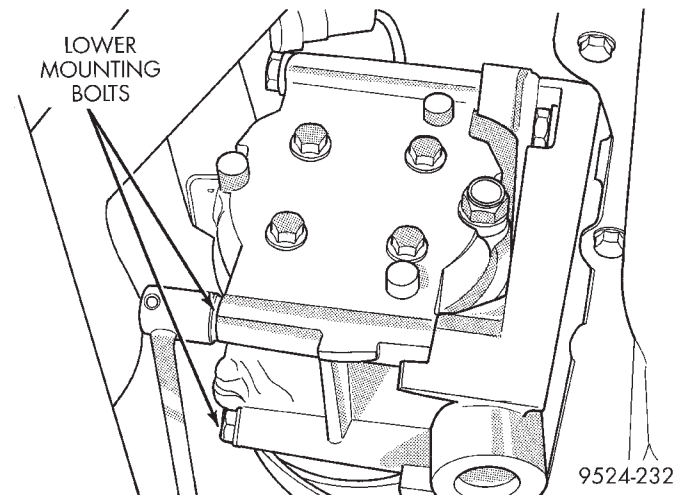
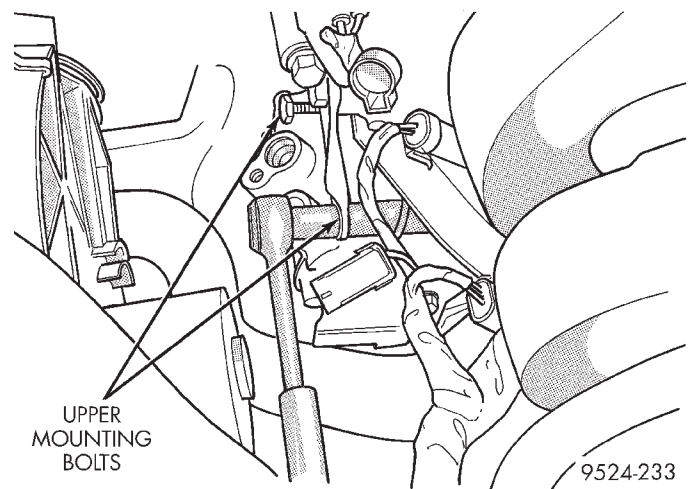

Fig. 17 Lower Attaching Bolts
Fig. 18 Upper Attaching Bolts
- (6) Remove compressor attaching bolts (Fig. 17) and (Fig. 18).